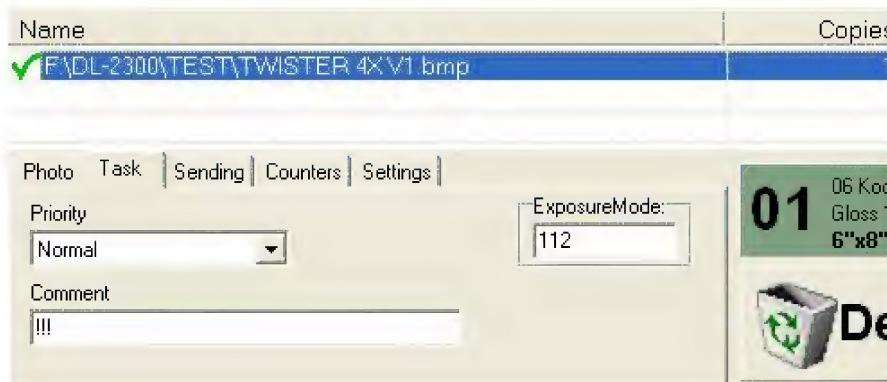

Fig 2.5.4
- On Task tab set **Comment** to !!!, and **ExposureMode** to 112 (Fig 2.5.4).